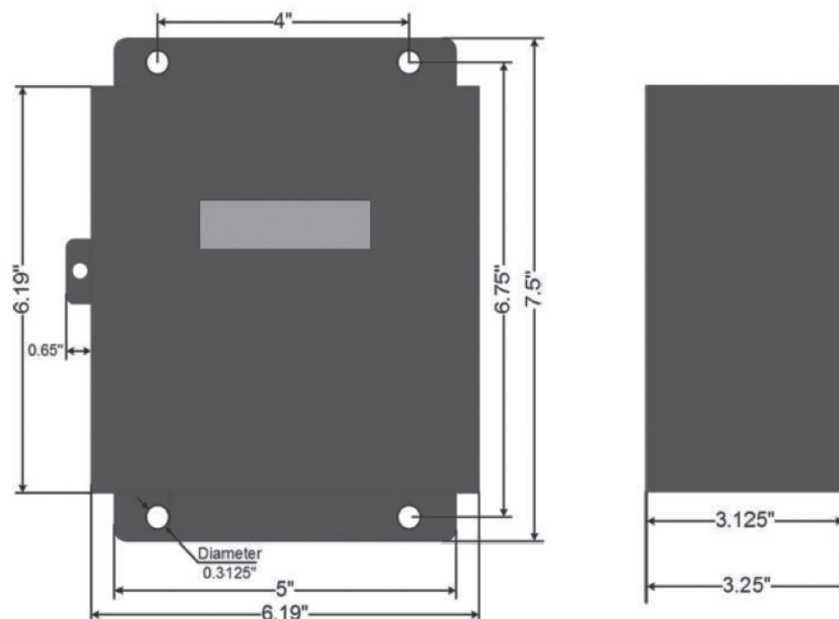

Figure 1 - Steel Enclosure Dimensions
1. Industrial grade JIC steel enclosures for indoor installations, shown in Figure 1